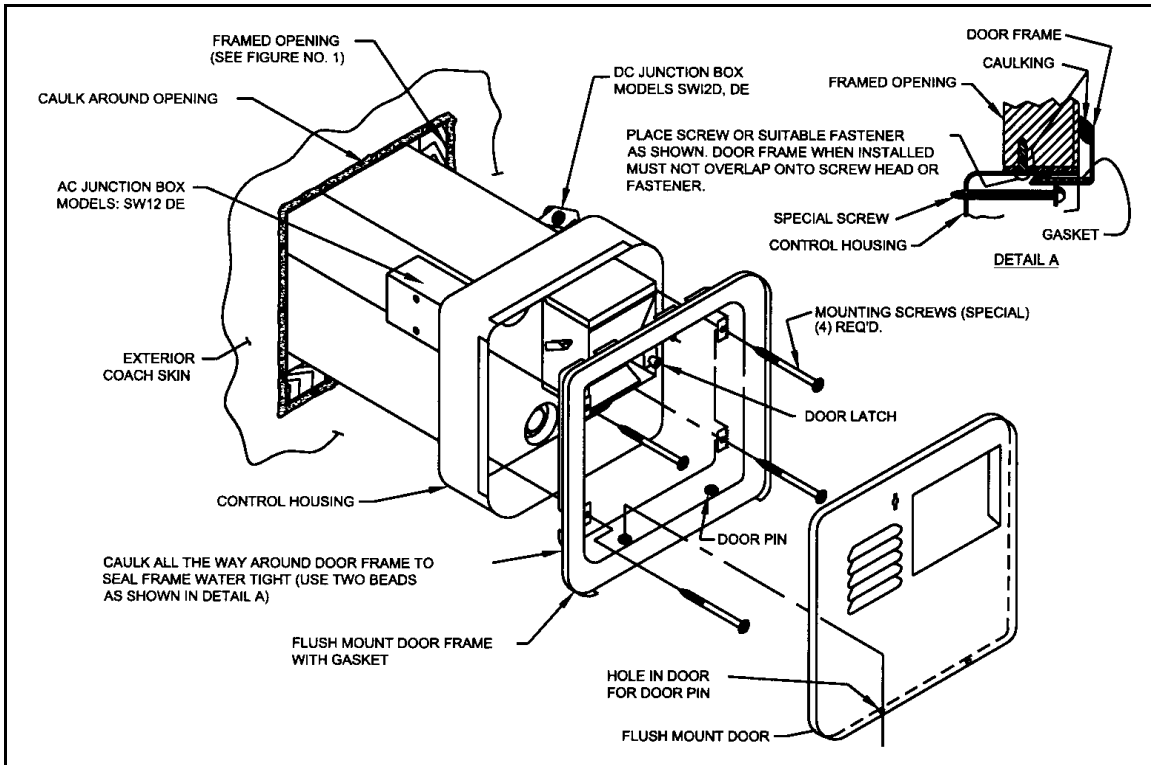

Figure 2
INSTALLATION USING FLUSH MOUNT FRAME & DOOR (See Figure 2 for Illustration)
B. Refer to Figure 2 for location of D.C. junction box on models SW 12D, SW 16D, SW 12DE and SW 16DE. Refer to Figure 5 for location of D.C. junction box on model SW 12DEM or SW 16DEM.
B. Refer to Figure 2 for location of A.C. junction box on models SW 12DE or SW 16DE. Refer to Figure 5 for A.C. junction box on models SW 12DEM or SW 16DEM.